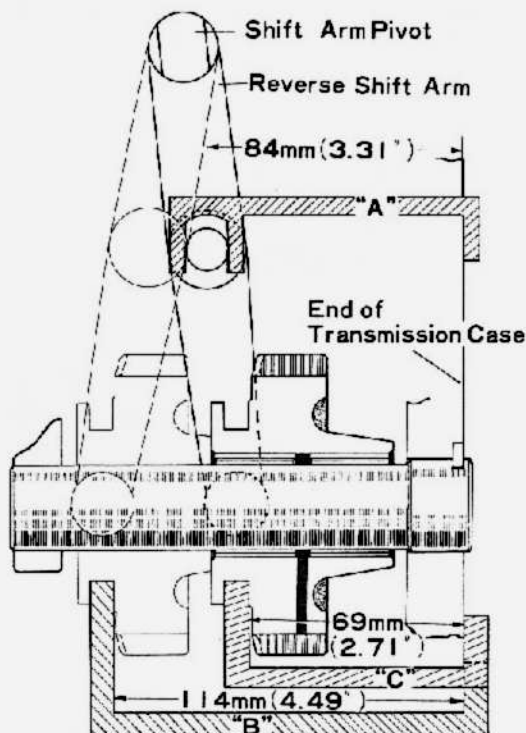

Fig.2-94 Reverse Shift Arm Adjustment G2387
(3) Install the gauge "B" into the shift groove of the reverse idler gear, and adjust the gear position (reversely shifted position) by turning the shift arm pivot to obtain the distance of 114 mm or 4.49" between the outer rear end of the transmission case to the gear front end as figure 2-94. Tighten the shift arm pivot lock nut securely.
(4) Next, install the gauge "A" onto the reverse shift arm pin, and the gauge "C" into the shift groove of the gear, and check the